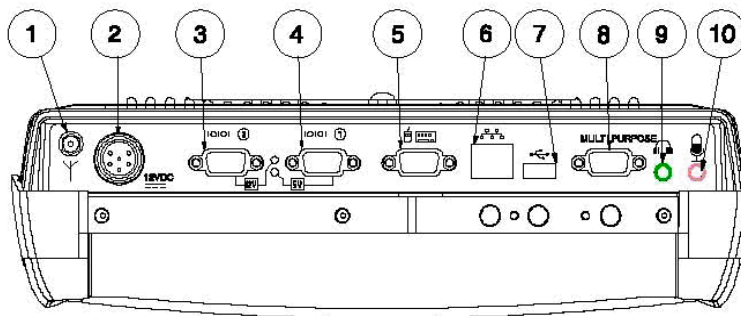

Figure 5 Ports for connecting peripherals
Connect keyboards and pointing devices to the computer's keyboard port; see Figure 5, pos. 5. Note that some require an adapter and others must be configured. Follow the instructions for the type of keyboard that you have.
- 1 Connect the PS/2 adapter (included) to the keyboard port on the computer; see Figure 5, position #5.
- COM port; see Figure 5, pos. 3 or 4
- USB port; see Figure 5, pos. 7
- 1 Connect the barcode reader to the COM port; see Figure 5, position #3 or #4.
- 1 Connect the GPS or GSM/GPRS product to the COM port; see Figure 5, position #3 or #4.